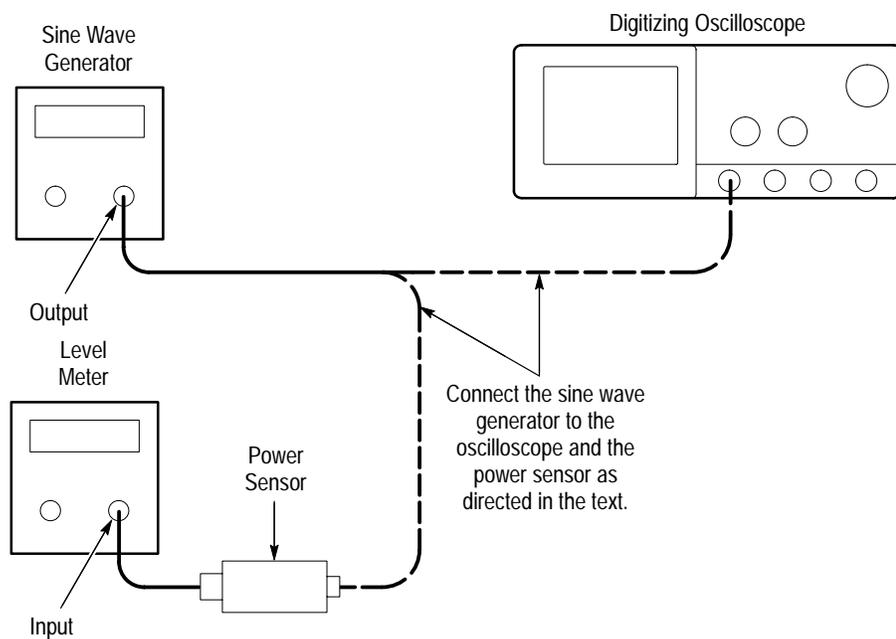

**Figure 4-41: Sine Wave Generator Leveling Equipment Setup**
1. *Install the test hookup:* Connect the equipment as shown in Figure 4-41.